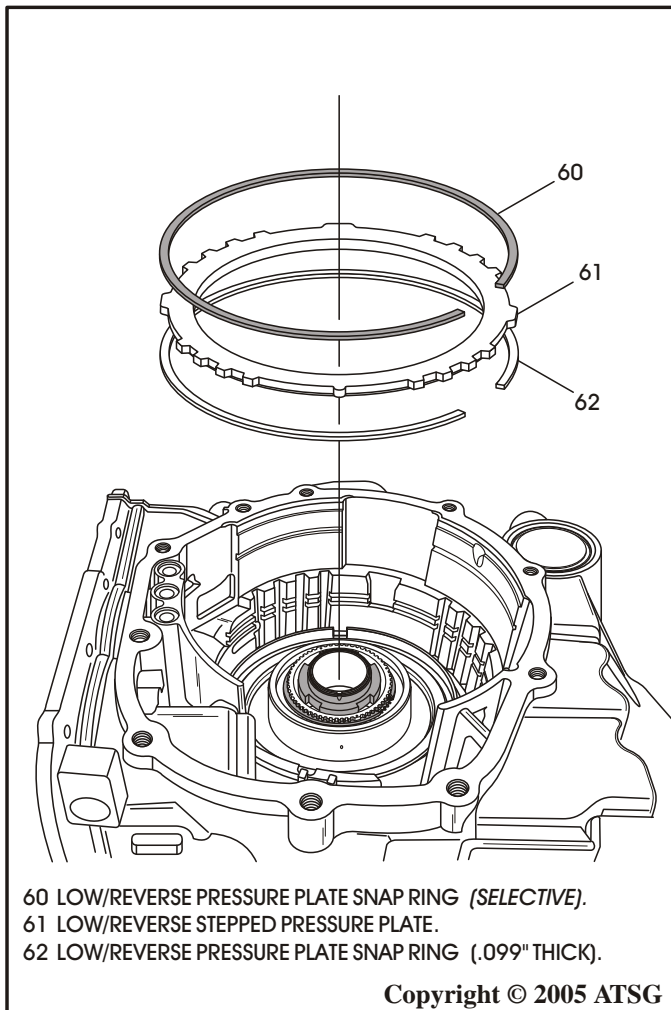

Figure 171
37. Install the .099" snap ring, the pressure plate with step down, and the selective snap ring only, as shown in Figure 171 and 172.